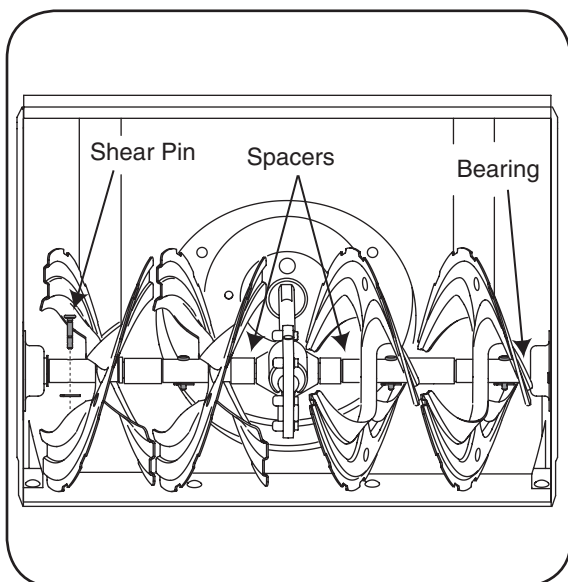

Figure 37
1. At least once a season, remove the shear bolts on the auger shaft. Oil or spray lubricant inside and on the plastic bearings on the shaft and near the holes where the shear bolts were removed before reattaching them. See Figure 37.